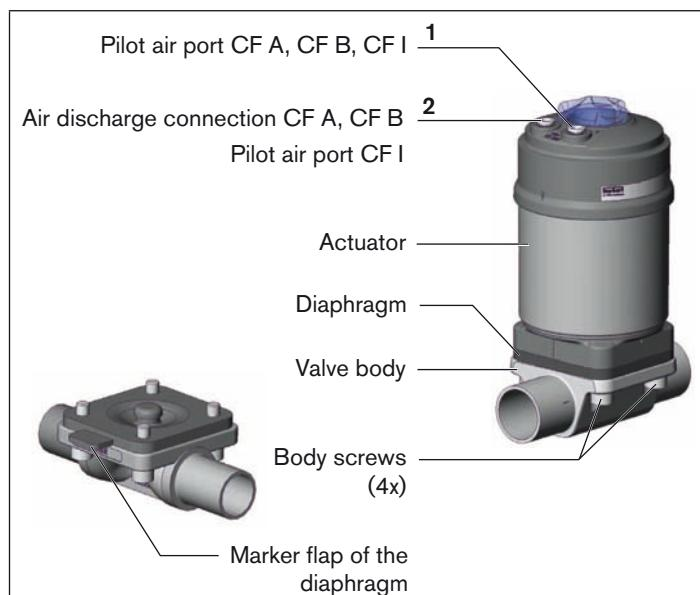

Fig. 33: Repairs
The marker flap of the diaphragm must be perpendicular to the direction of flow (see "Fig. 33: Repairs")!
The marker flap of the diaphragm must be perpendicular to the direction of flow (see "*Fig. 33: Repairs*"!).
- Pressurize pilot air port 1 of the actuator with compressed air (5 bar) (see "*Fig. 33: Repairs*").